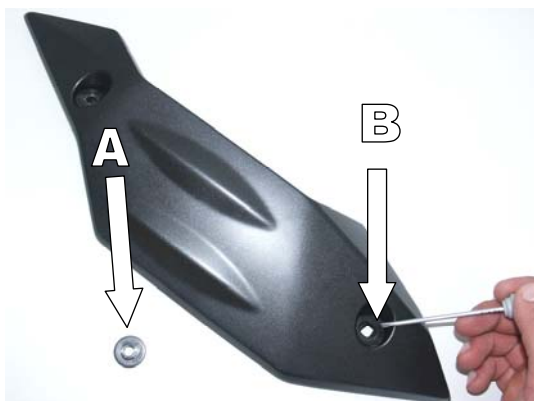
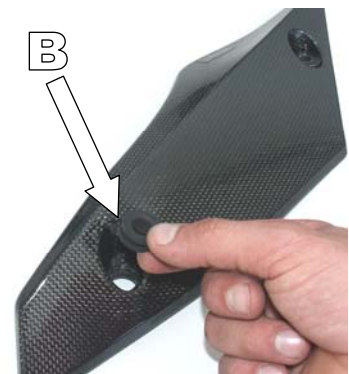

Figure 3
Figure 4
4. Reposition **collars A** and **rubber mounts B** (**Figure 3**) from stock spoilers to Akrapovic carbon fiber spoilers (**Figure 4, 5**).